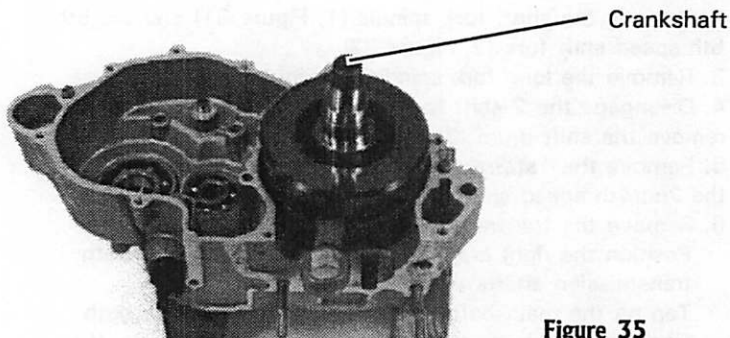

Figure 35
*If wooden blocks are used, they must be deep enough to allow removal of the crankshaft (Figure 35) without the left crank end contacting the workbench.*
4. Support the crankshaft with one hand then operate the puller plate screw to press out the crankshaft (Figure 35).